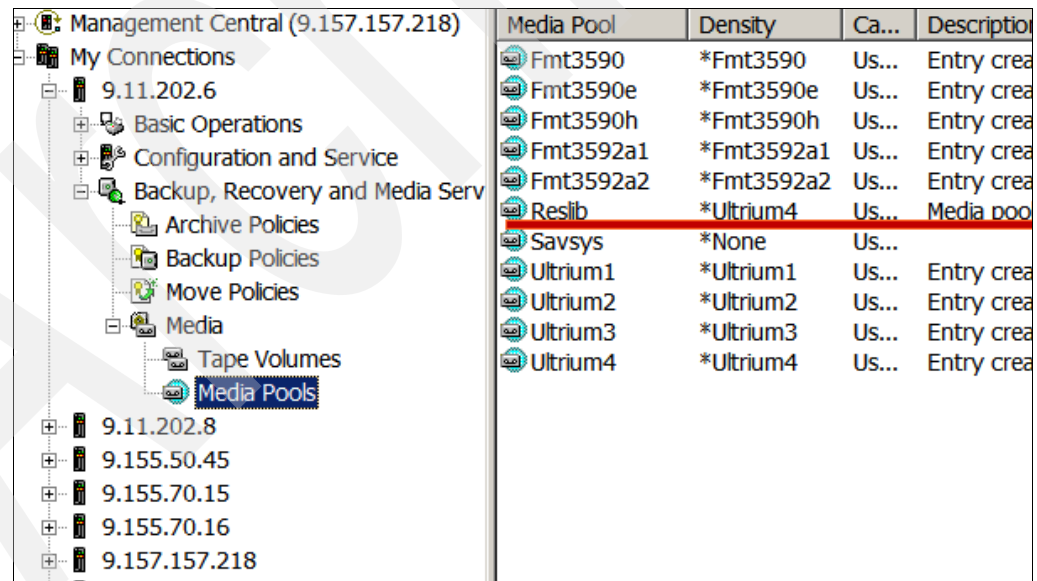

Figure 6-4 New media pool
- After refreshing the iSeries navigator view, a new media pool shows in the list, as can be seen in Figure 6-4.